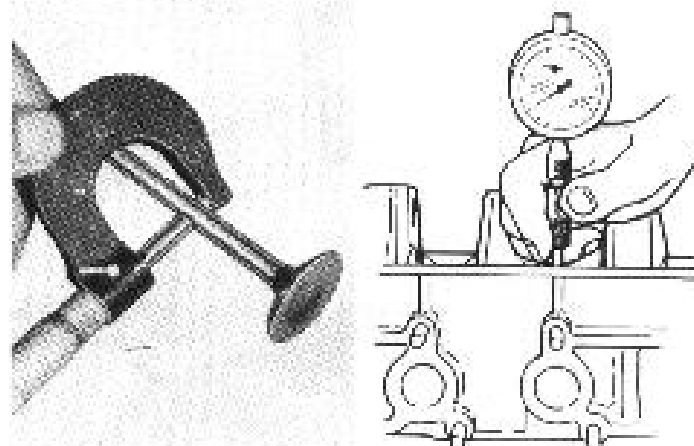
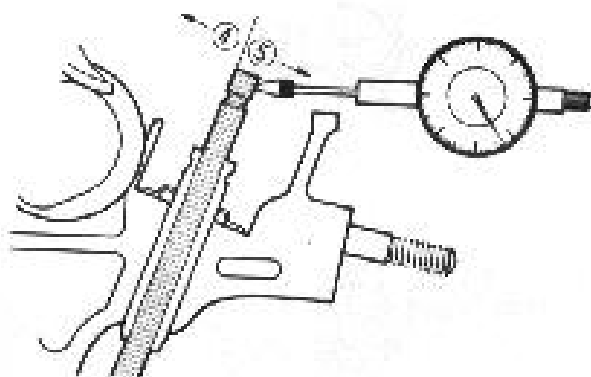

Fig. 3-57
Fig. 3-58
- Using a micrometer and caliper, take diameter readings on valve stems and guides to determine the stem clearance in the guide. Be sure to take a reading at more than one place along the length of each stem and guide, as shown in Fig. 3-57.
If the caliper like the one shown in Fig. 3-57 is not available, check the end deflection of the valve stem in place with a dial gauge rigged as shown in Fig. 3-58. Move the stem end in the directions ④ ⑤ and determine whether replacement is necessary or not, by referring to these limiting values: